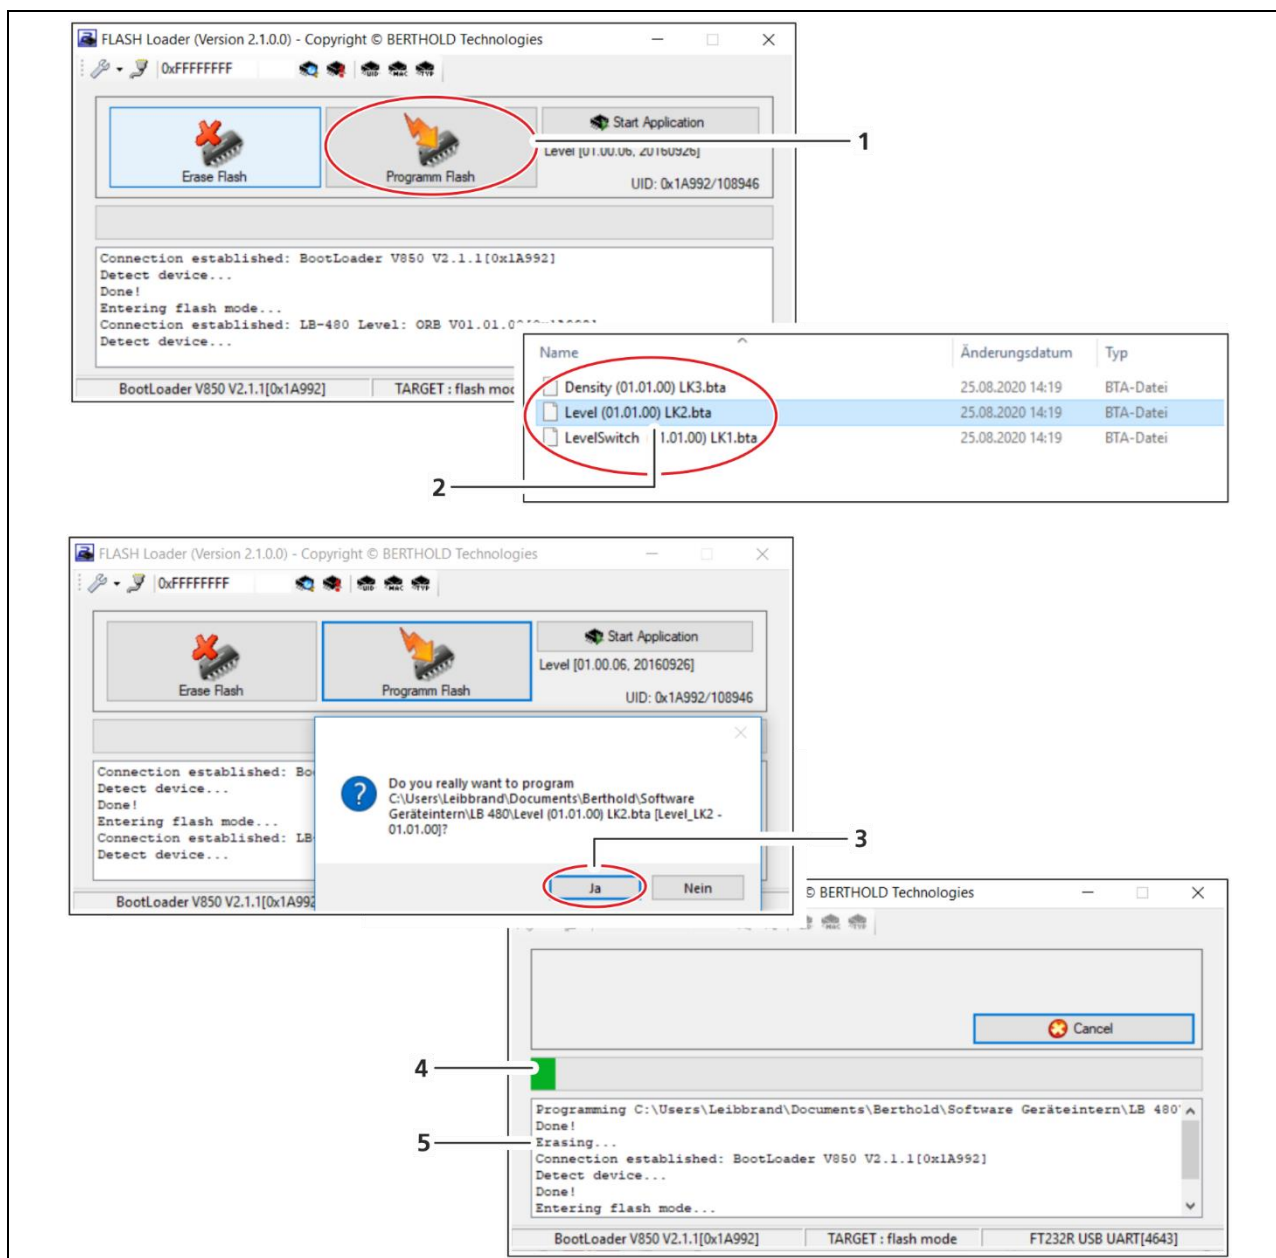

Fig. 6 Select new software in "Flash Mode"
25. Click on the button <Programm Flash> (Fig. 6, Pos.1).
26. Select the software file (.bta) e.g. "01.01.00." (Fig. 6, Pos.2) and click <Open>.
27. Confirm with <Yes> (Fig. 6, Pos.3).
- The old installation is deleted (Fig. 6, Pos.5) and the new embedded software is installed.
The installation process can take up to one hour if the transfer rate is low. Only interrupt the installation if the process bar (Fig. 6, Pos.4) does not change for a long time.